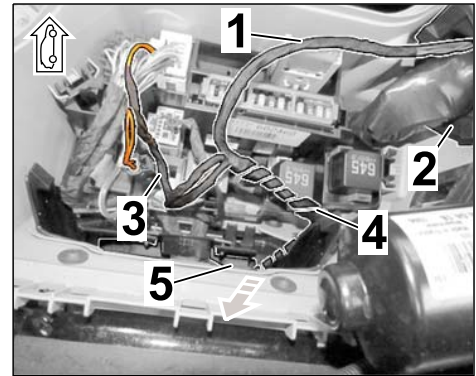

Figure 23
- 2.4.5 Carefully guide wire harness for engine noise control unit/pulse sender through the new opening (sleeve) into the fuse box (E-box) (⇒ *Figure 23*).